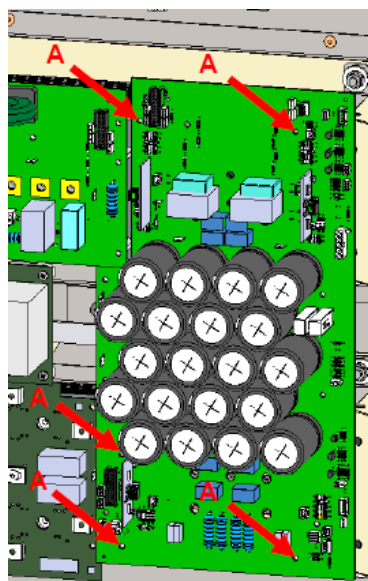

Fig. 77
- 4) Remove the lateral screws (refer to Fig. 77).
- 1) Place the board paying attention to insert the IGBT modules cables through the slots on the board, then fix the board with n.5 plastic screws (refer to Fig. 77).